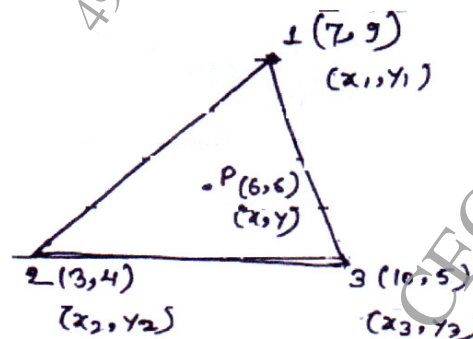

Figure 4
- Q3) a) A constant strain triangular element is defined by three nodes as shown in Figure 4. Evaluate the shape functions  $N_1, N_2$ , and  $N_3$  at the interior point P (6,6). [7]